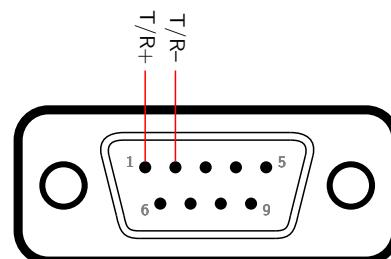

Figure 2.3: DB-9 female connector (solder side).²
1. Solder the pins on a female DB-9 connector as shown in Figure 2.3. Note that the pin numbers shown in the diagram are for the solder side of the connector.